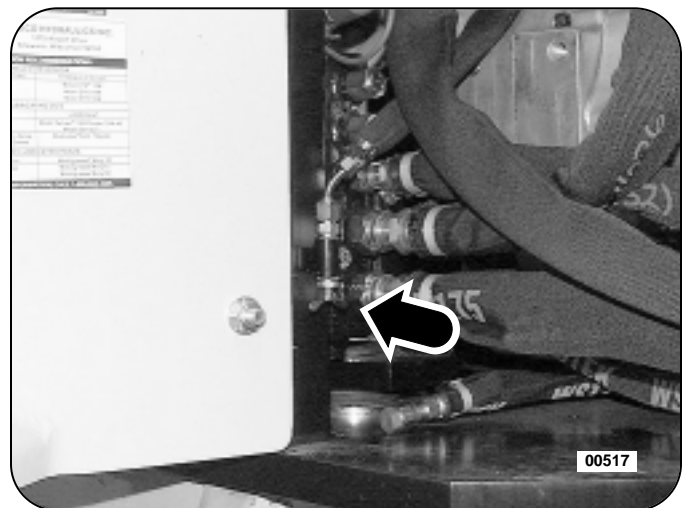

Figure 22: Turbo Boost Release Valve
2. Release turbo boost pressure at the turbo boost release valve. See Figure 22.